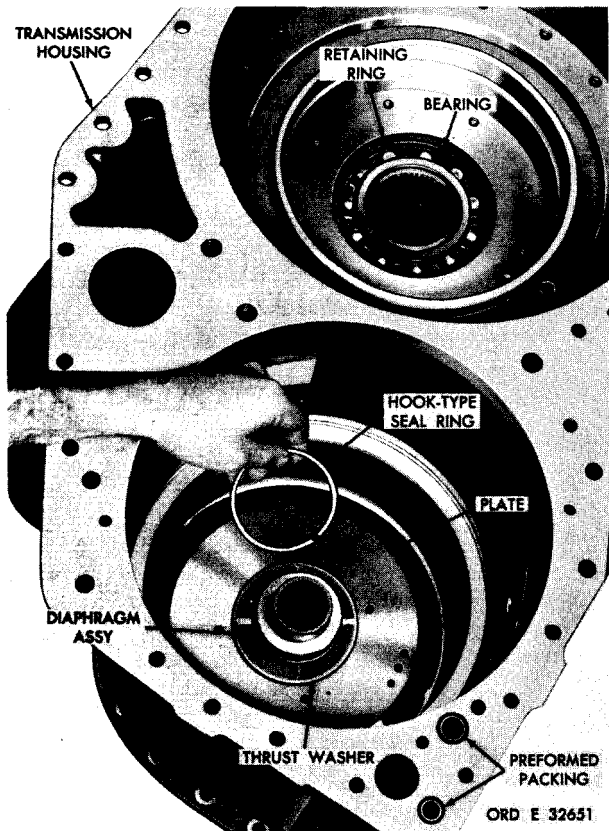
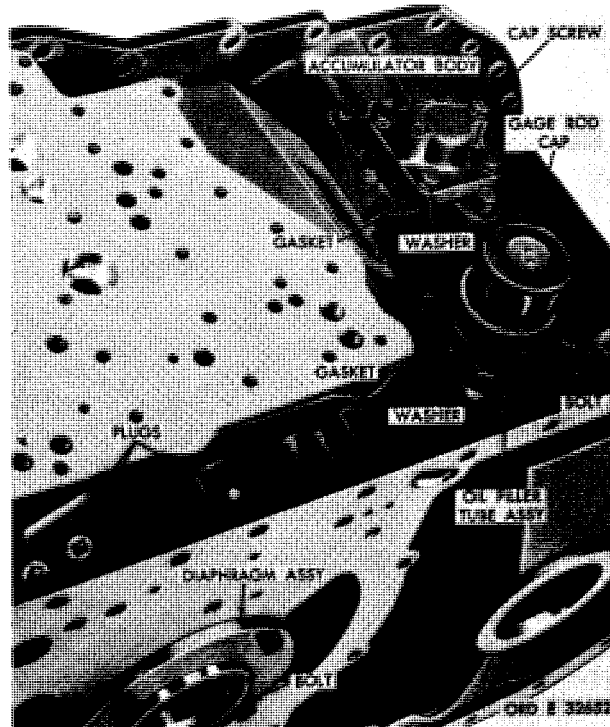

Figure 232. Removing hook-type seal ring from hub of diaphragm assembly
Figure 233. Transmission main housing
a. Remove two hook-type seal rings from the hub of the diaphragm (fig. 232).
b. Remove the thrust washer (fig. 232).
c. Remove two preformed packings from the transmission housing (fig. 232).
d. Remove retaining ring that retains bearing (fig. 232).
e. If necessary to remove the diaphragm assembly, use a 9/16-inch wrench to remove four self-locking bolts retaining diaphragm. Position housing in a press, and press out the diaphragm. Refer to fig. 233.
f. If the diaphragm assembly was removed, remove the diaphragm clamp plate. Refer to fig. 232.
g. Remove the gage rod cap from the oil filler assembly. Refer to fig. 233.
h. Using a 9/16-inch wrench, remove four bolts and lock washers from the oil filler tube assembly. Remove the oil filler tube assembly. Refer to fig. 233.
***C2** i. Using a 9/16-inch wrench, remove six cap screws (two different lengths) and lock washers that retain the accumulator body. Remove the accumulator body. Refer to fig. 233.
n. If necessary, the various plugs may be removed from the housing to aid in the cleaning of the oil passages in the housing (figs. 233 and 235).
*C/W a. Install any plugs removed from the transmission main housing (figs. 233 and 235).
d. Install the output coupling with the bearing into the transmission housing. Install the retaining ring (fig. 232).
*C2 e. Position the transmission housing on its bottom side. Install the accumulator body and gasket. Secure the body with four 3/8-16 x 1-1/2 and two 3/8-16 x 2-1/2-inch cap screws with lock washers (fig. 233).
g. Install the diaphragm assembly in its housing bore (fig. 233).
*C2 h. Install the diaphragm clamp plate over the hub of the diaphragm assembly (fig. 232). Align the bolt holes in the plate with the diaphragm assembly. Install four 3/8-24 x 2-1/2-inch self-locking diaphragm bolts (fig. 233).
i. Install a 11 two preformed packings on transmission housing (fig. 232).
j. Install two hook-type seal rings on hub of diaphragm assembly (fig. 232).